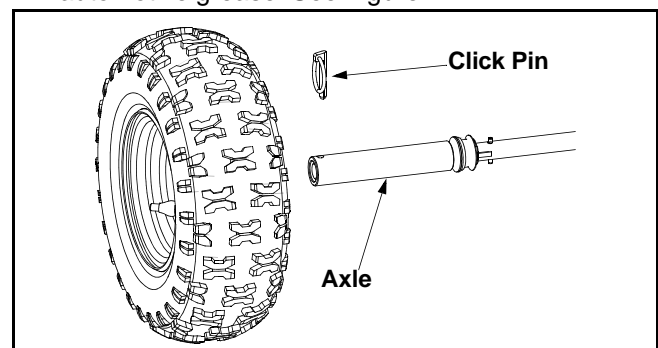

Figure 14
- Oil or spray lubricant into bearings at wheels at least once a season. Pull click pin, remove wheels, clean and coat axles with a multipurpose automotive grease. See Figure 14.